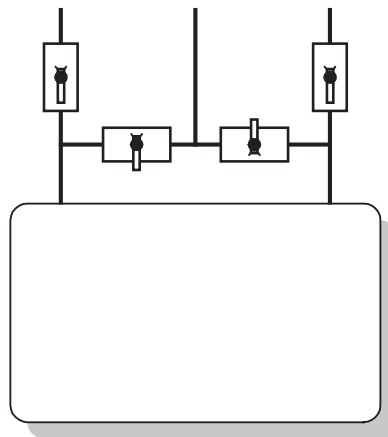

Fig. 2 (Layout collegamenti idraulici; Layout hydraulic connections)
Arrange for the water inlet piping as shown in the lay-out diagrams, Fig. 2. Mount the ball taps (1) at the end of the pipes (black lever = cold on the right and red lever = warm on the left). Provide to insulate thermally the inlet pipes to obtain the best performances.